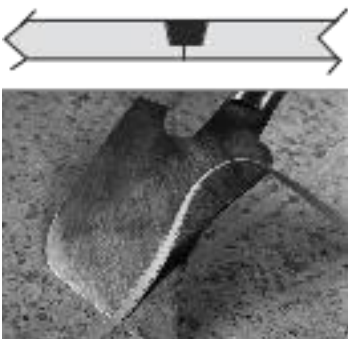

Figure 7
- After the weld rod has cooled to room temperature, remove the remaining excess weld rod on the second pass by holding the spatula knife flush with the flooring (Fig. 7). Smooth, continuous passes result in smooth seams. Repeated stop/start actions result in rough seams. NOTE: For PVC-Free weld rods apply heat to the surface of the seam to restore the color if stress whitening occurs due to skiving.